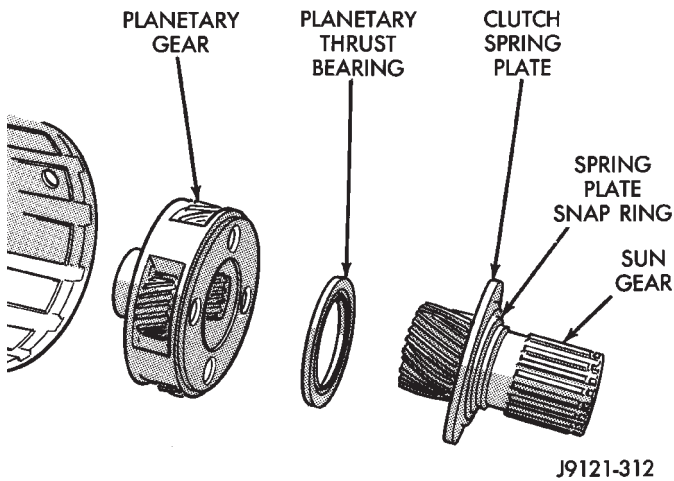

Fig. 26 Removing Sun Gear/Thrust Bearing/Planetary Gear
- (16) Remove sun gear and spring plate, planetary thrust bearing and planetary gear (Fig. 26).